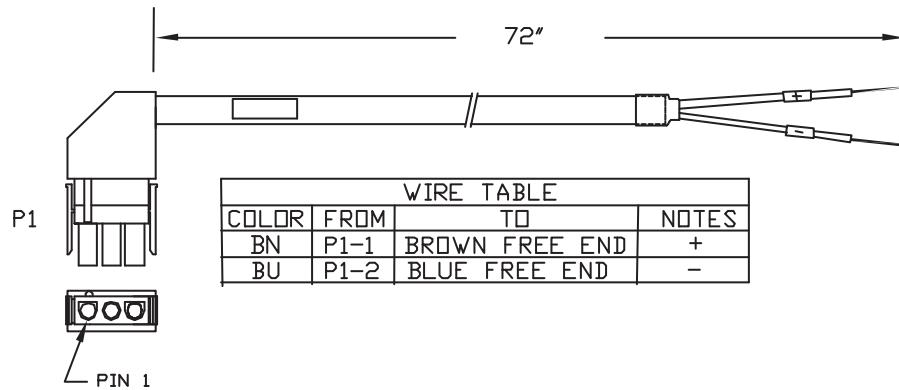

Figure 4-45. P0972RN, FPS400-24 Power Cable to Hub
The FPS400-24 power supply is used with DIN rail modules and Ethernet switches. Cable P0972RN 1.8 m (6 ft) connects power from the FPS400-24 to the Ethernet hubs. (see Figure 4-45).
4. Insert P1 of the cable P0972RN (refer to Figure 4-45) into an empty dc output plug of the FPS400-24.
4. Insert P1 of the cable P0972RN (see Figure 4-45) into an empty dc output plug of the FPS400-24.